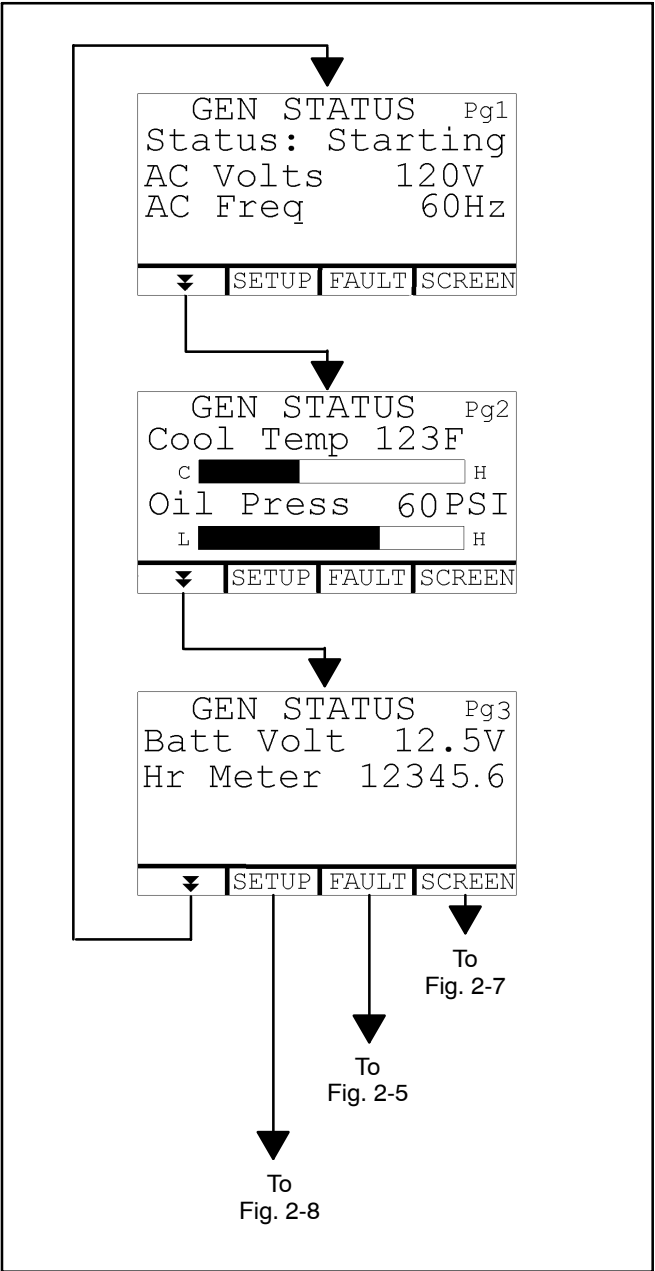

FIGURE 2-3. TYPICAL GENERATOR SET STATUS SCREENS
Push and Hold **START** until the generator set starts. The **Generator** status lamp will blink while the engine is preheating and cranking and stay on while the generator set is running. **Status** on the Digital Display will change from *Starting* to *Running* (Figure 2-3). See STARTING THE GENERATOR SET (p. 3-3).
Generator set status is displayed on three GEN STATUS screens (Figure 2-3). GEN STATUS Pg1 appears when the Digital Display is turned on. Press the double arrow to go to the next screen.
1. *Push and Hold **START*** on the Digital Display or control switch until the generator set starts. The generator set status lamp blinks when the engine is cranking and comes on and stays on when the generator set starts and runs. The status displayed on the Digital Display changes from *Starting* to *Running* (Figure 2-3).